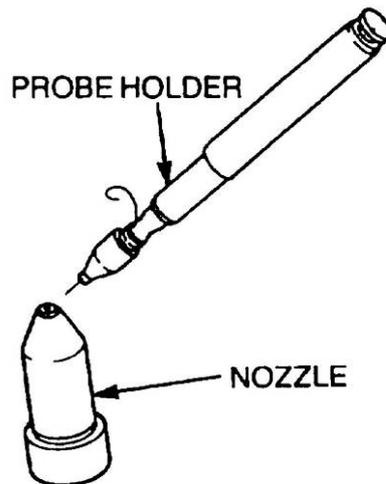

Figure 143 Cleaning the Nozzle Spray Holes
- d. To prevent the wire bending or breaking in the nozzle ensure that no more than 1.5 mm (0.062 in) extends from the holder. Use the probe wire to clean out the carbon from the nozzle spray holes (Figure 143).